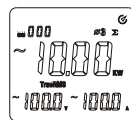

Figure 8-6
- As shown in Figure 8-6, please press “ Σ ” key to measure total three-phase power. Current measured power of the 3rd phase location also shall be calculated and saved.